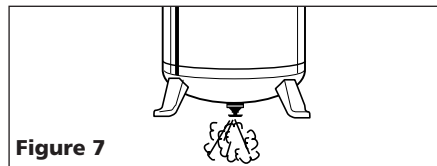

Figure 7
2. With compressor shut off and pressure released: Drain moisture from tank by opening drain cock underneath tank (See Figure 7).